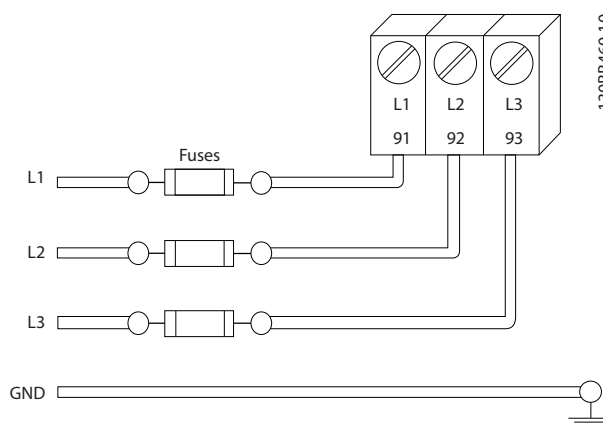

Figure 2.7 Adjustable frequency drive Fuses
- All adjustable frequency drives must be provided with short-circuit and overcurrent protection. Input fusing is required to provide this protection, see Figure 2.7. If not factory supplied, fuses must be provided by the installer as part of installation. See maximum fuse ratings in 10.3 *Fuse Tables*.